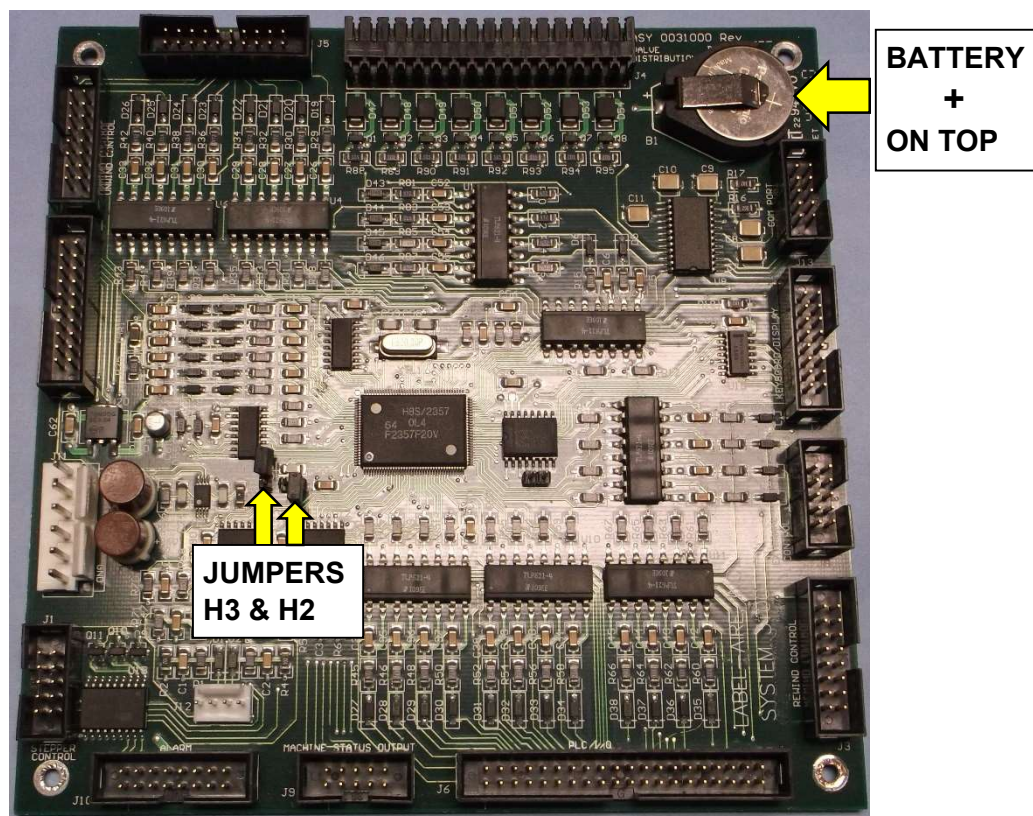

Figure 37 Processor Battery
4. Refer to Figure 37 Processor Battery. Locate jumpers H2 and H3. Place jumpers on both pins. Jumpers must cover both pins prior to programming the processor board.